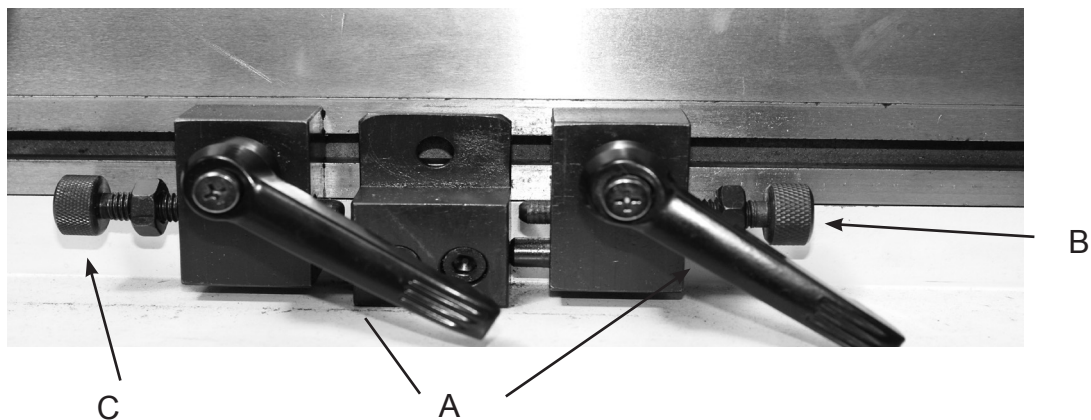

Fig. 14
- (7) Switch on the grinding wheel (clockwise), and rotate the crossfeed hand-wheel to start grinding. Rotate Knob B & C for feeding. Rotate B forward while C backwards. Fig. 14